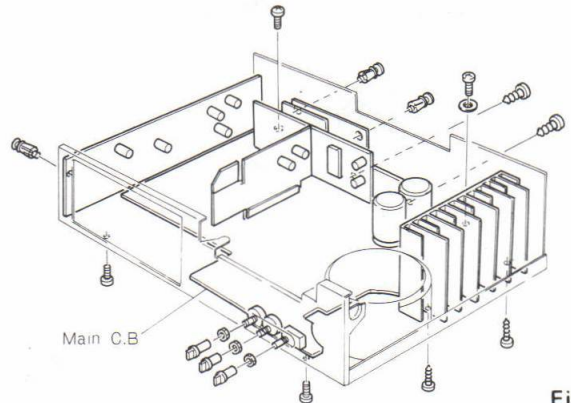

Fig. 4
- 1) Remove the 8 screws and 3 nylon rivets. (See Figure 4)